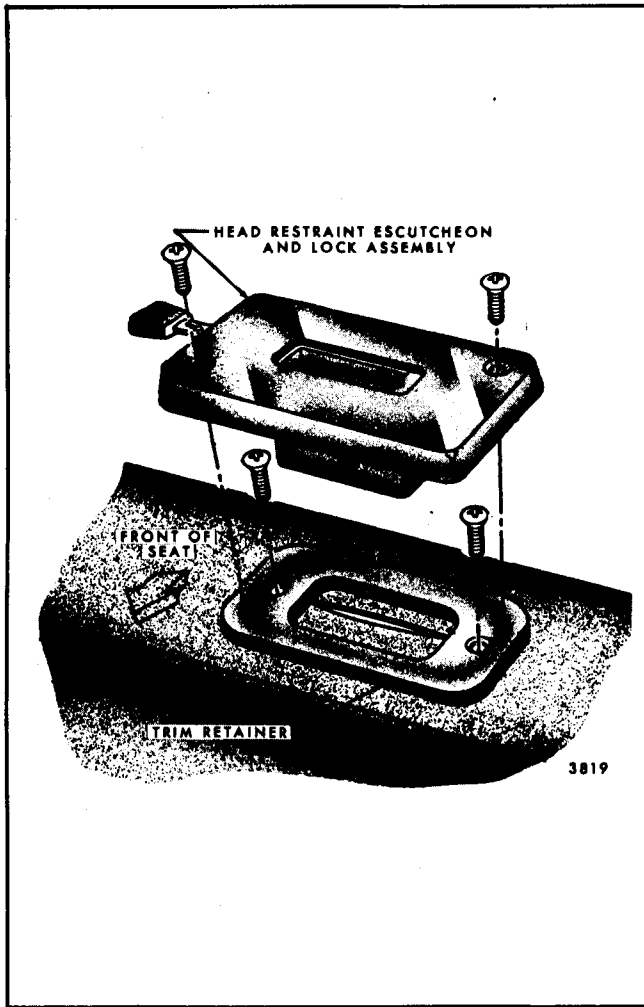

Fig. 14-32-Front Seat Back Head Restraint Retainer, Lock and Escutcheon - Conventional and 60-40 Seats
2. Remove lock and escutcheon assembly attaching screws and remove lock and escutcheon (Fig. 14-32).
1. Remove front seat back and head restraint lock and escutcheon assembly, as previously described. Remove trim retainer (see Fig. 14-32).